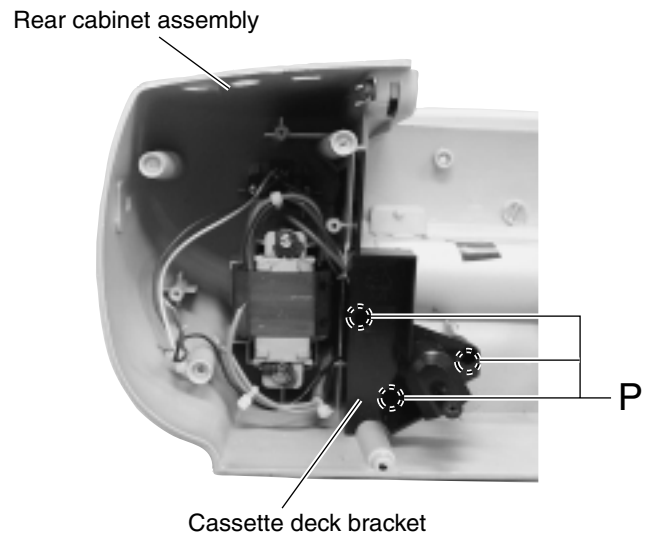

Fig.19
3. From the inside of the rear cabinet assembly, remove the three screws **Q** retaining the cassette deck bracket. (See Fig.19.)
4. Remove the solders from the soldered section **r** and **s** connecting the wires (red and black). (See Fig.19.)